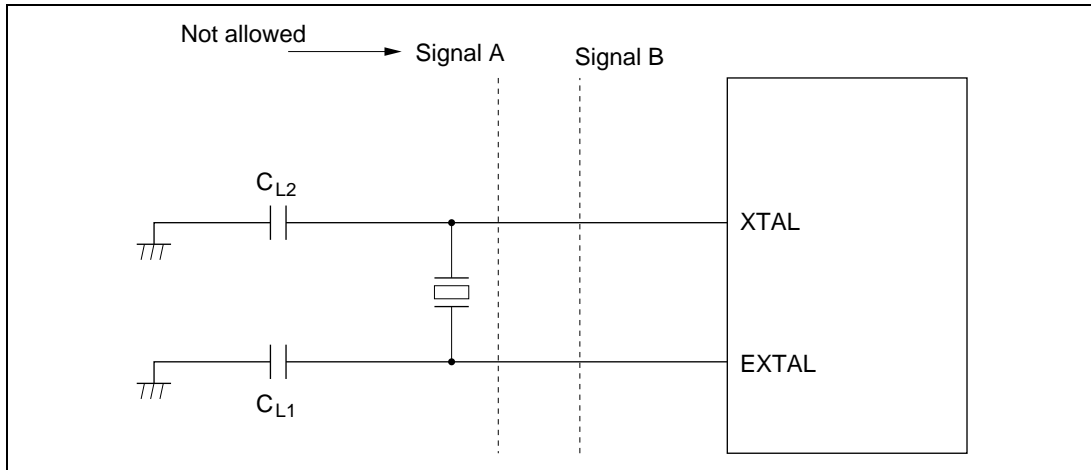

Figure 6-4 Board Design around External Crystal
(3) Note on Board Design: When an external crystal is connected, other signal lines should be kept away from the crystal circuit to prevent induction from interfering with correct oscillation. See figure 6-4. The crystal and its load capacitors should be placed as close as possible to the XTAL and EXTAL pins.